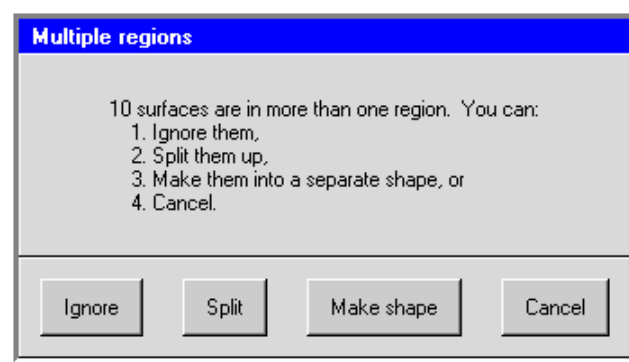

Figure 4.2.9: The Multiple regions Panel
4. When you have divided the CAD geometry into the appropriate regions, click the middle mouse button in the graphics window. **Airpak** will open the **Multiple regions** panel (Figure 4.2.9), which contains the following options: